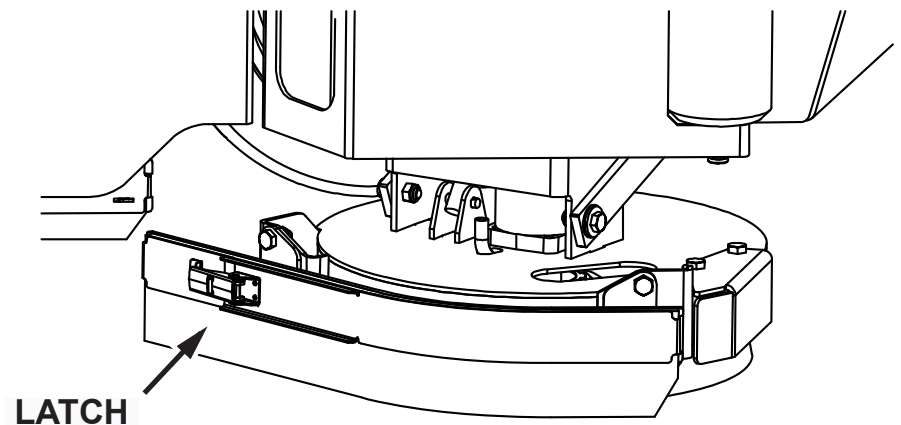

Fig. 2: Optional side scrub brush with squeegee
2. If the machine is equipped with the optional side scrub brush, raise the side brush squeegee blade by removing the squeegee retaining strap, relocating the squeegee blade using the lowest positioning slots (highest squeegee position), then replacing the squeegee retaining strap. See Fig. 2.